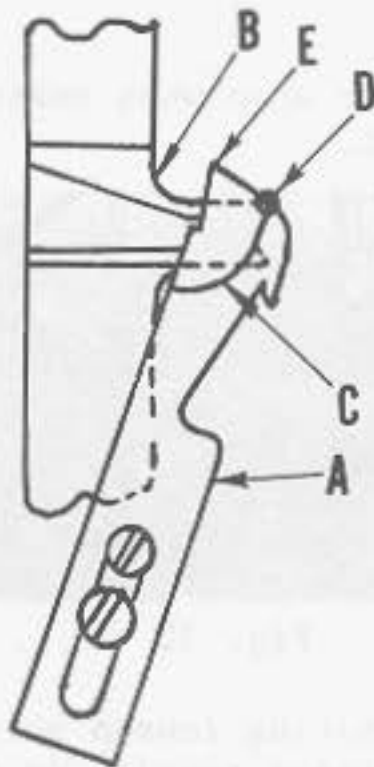
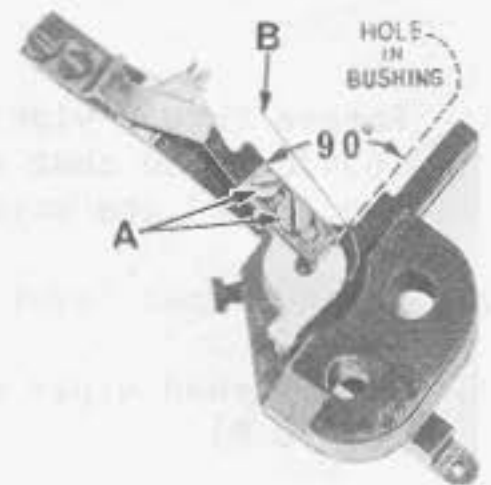
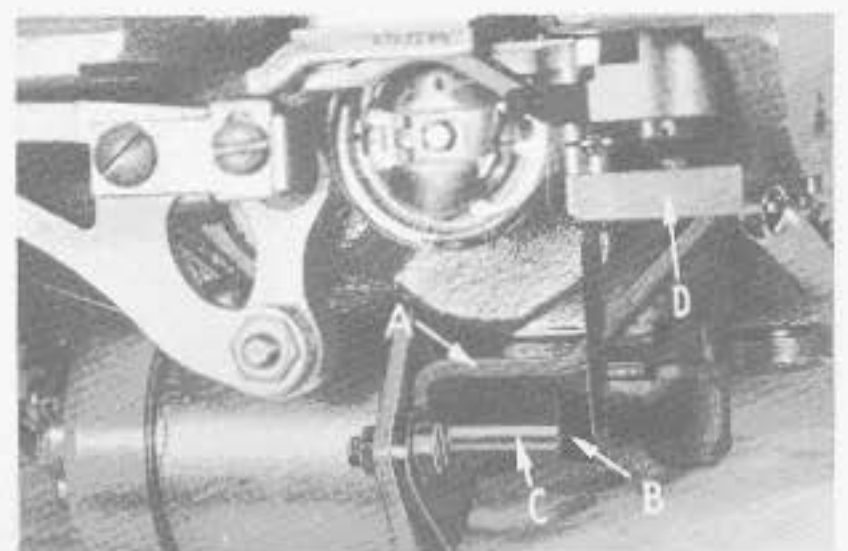
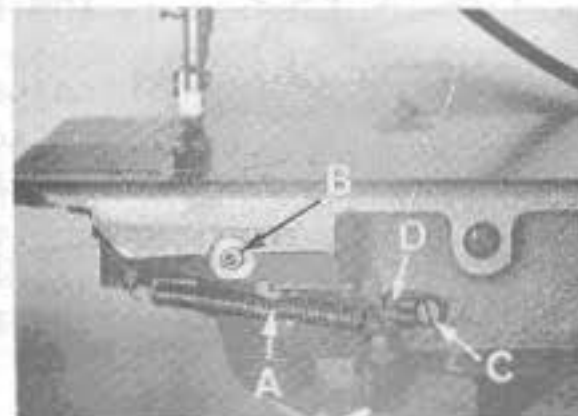

Fig. 29
Fig. 30
Fig. 31
Fig. 32
If this is not so, loosen the finger set screw (E) and turn the eccentric bushing (F) until the knives are parallel. A good starting point would be to have the pin hole in the eccentric bushing (F) located approx.  $90^{\circ}$  to the right side of the arm of the positioning finger (Fig. 30).
The lower knife (A, Fig. 29) in its extreme left position should not extend beyond the left side of the arm of the positioning finger (B). As the lower knife moves to the right, the run out of the cutting edge (C) must coincide at a point of the positioning finger as indicated at point (D). To make these adjustments loosen screws (A, Fig. 30) and position knife.
4. Locate the cutting solenoid bracket (A, Fig. 31) as far forward as possible and parallel with the line of feed. With the cutting solenoid lever (B) contacting the cutting solenoid plunger (C), adjust the pivot release lever (D), so that there is a  $1/32$  inch (.79 mm) clearance to be maintained when knife return spring (A, Fig. 32) is in position.
5. Adjust the lower knife stop screw (B, Fig. 32) so when the lower knife in its extreme right hand position, the left corner (E, Fig. 29) is in line with the left side of the needle slot in the bobbin case holder.
6. Be sure the spring retainer wire (B, Fig. 30) contacts the bobbin case holder when the lower knife is in its extreme right hand position. If the spring wire does not make contact, bend retainer wire to suit.
7. Knife return spring (A, Fig. 32) to have proper tension to cut threads. To adjust tension of knife return spring loosen screw (C) and move tension spring bracket (D) to the right to increase tension or to the left to decrease the tension.